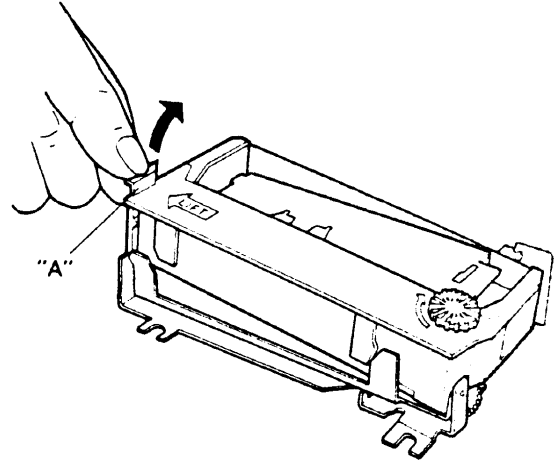

Fig. 2-6. Removal of Ribbon Cassette
- (1) Grasp section "A" of the ribbon cassette with your fingers, then lift the ribbon cassette in the  direction to remove it as shown in Fig. 2-6.